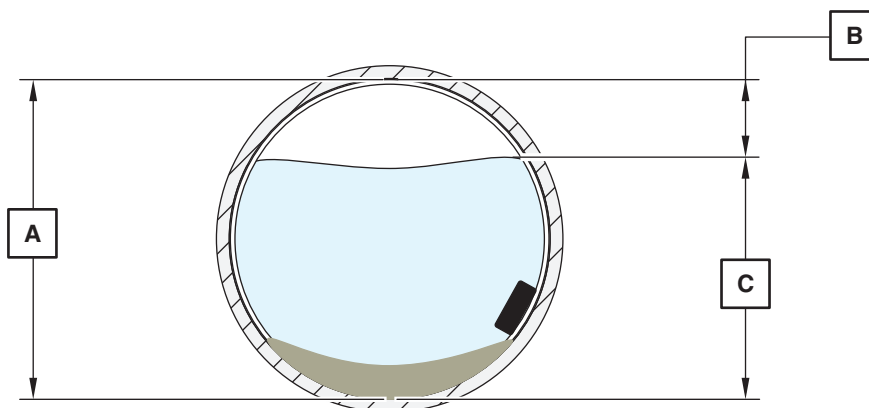

Figure 12 Measuring the Water Level
2. Take a physical measurement of the water depth by measuring the distance from the top of the pipe to the surface of the water (item B, Figure 12), and subtracting this number from the pipe diameter (item A, Figure 12). The resulting number is the water depth (item C, Figure 12).